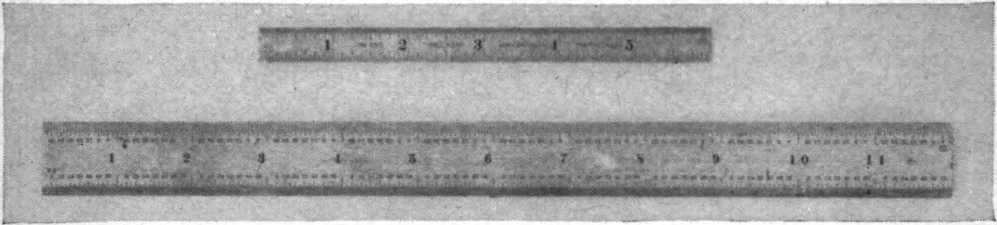

*Figure 55. Measuring tape.*
*b. TAPES.* (1) There are several kinds and lengths of tapes. The one used by an airplane mechanic (fig. 55) is 6 feet long and made of steel. It is coiled in a circular case. It may or may not have one end fastened permanently to the case. The tape may easily be drawn out of the case when needed and pushed back into the case when not needed. It is made of flexible steel and rolls up in the case as it is pushed in. It is graduated on one side only in  $\frac{1}{16}$ - and  $\frac{1}{32}$ -inch divisions. It has a small lip on the end. This lip prevents the tape from sliding completely